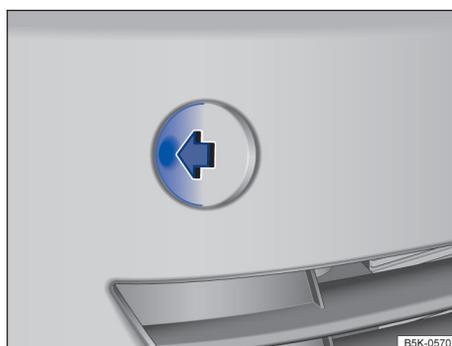

Fig. 164 In the right front bumper: Removing the cover.
- Push on the left side of the cover → fig. 164 (arrow) so that it pops out.